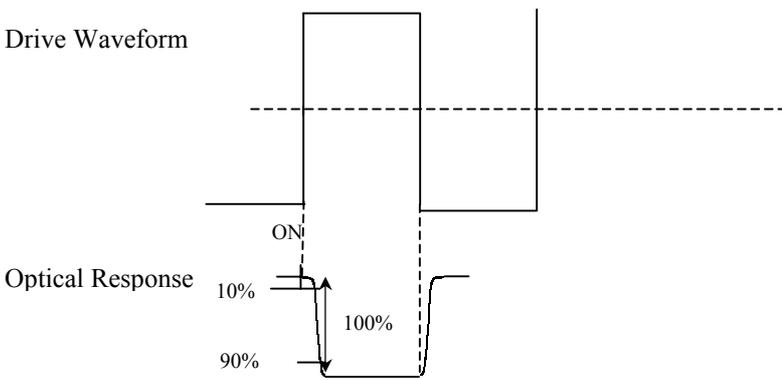

Figure 3. Typical optical response of the shutter when driven with a square wave form
- *the time between the switching trigger and 90% of the fully switched transmission (see Figure 3).*
A typical example of optical response can be seen in Figure 3 below: